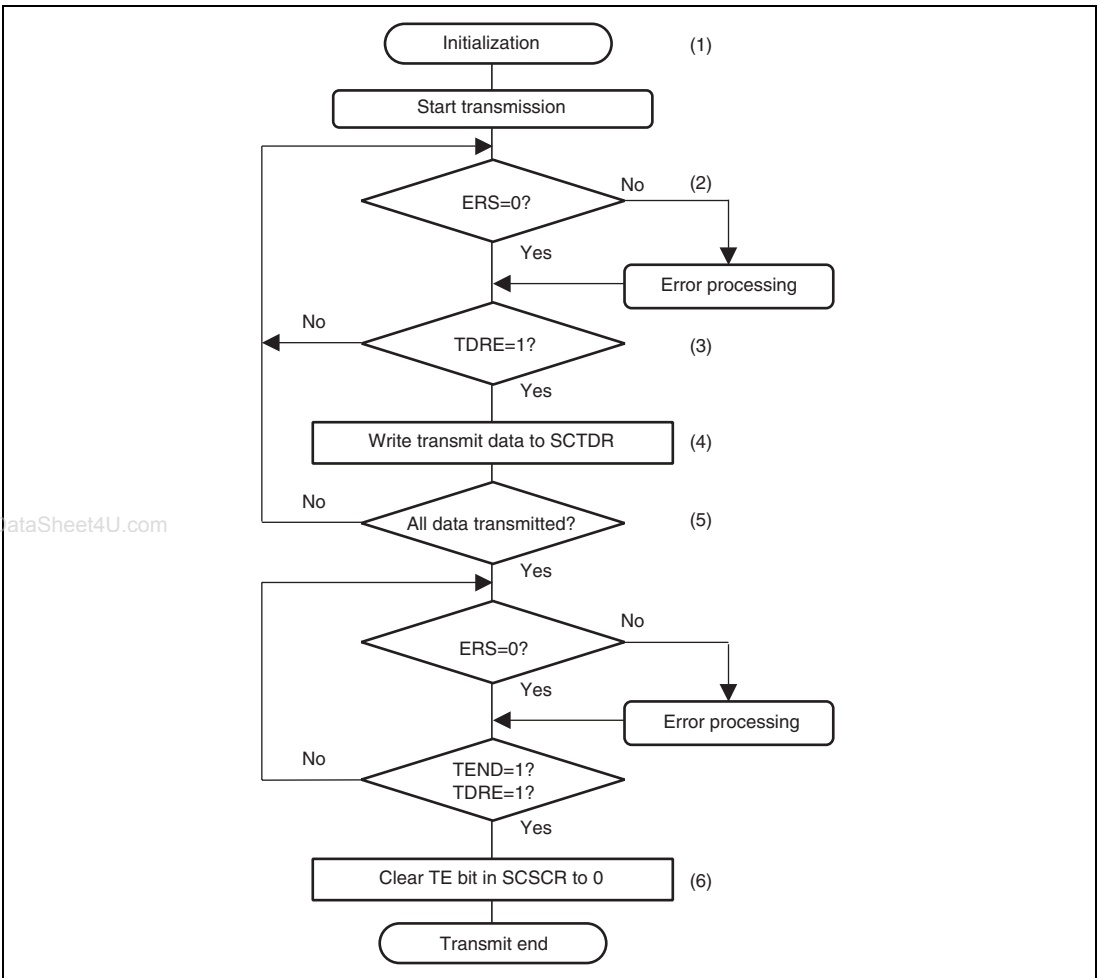

Figure 30.5 Example of Transmit Processing
Data transmission in smart card mode includes error signal sampling and retransmit processing. An example of transmit processing is shown in figure 30.5.
Step (1) to step (6) of figure 30.5 correspond to the following operation.
3. Repeat steps (2) and (3) until it can be confirmed that the TDRE flag in SCSSR is set to 1.
5. When performing continuous data transmission, return to step (2).